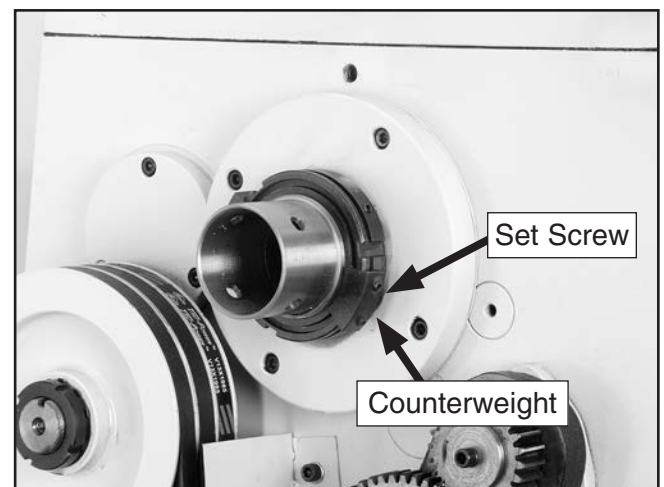

Figure 74. Spindle counterweights.
18. Reinstall the lathe end cover, and make sure the counterweights (**Figure 74**) do not rub on the cover when the lathe is turned on.
3. Open the side cover, loosen the counter weight set screws (**Figure 74**), and reposition one or both counterweights to a new position around the circumference of the spanner nut.